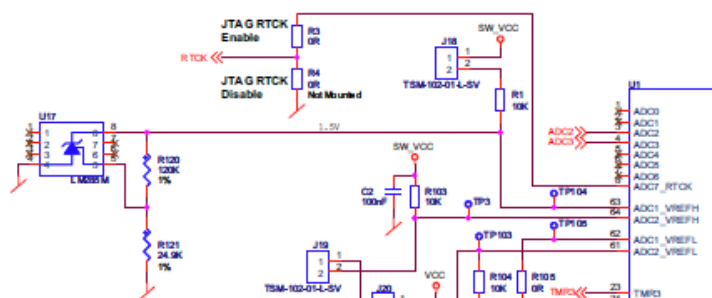

Figure 8. ADC voltage reference U17 enabled via J18
- ADC voltage reference current. Voltage reference U17 is enabled via J18; current can be measured through this jumper. Figure 8 shows example circuit.